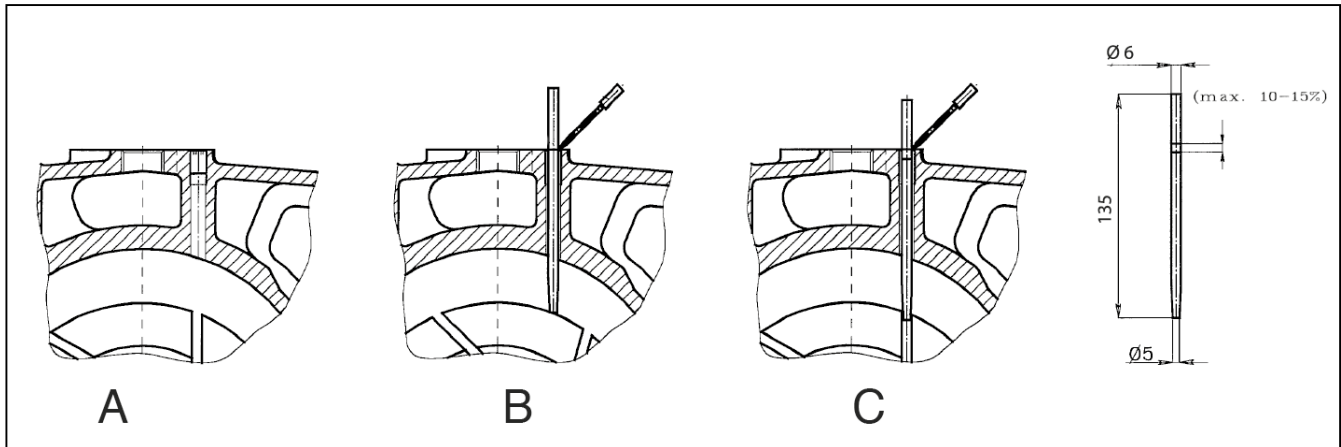

Figure 14
- 7) mark the rod again at the level of the inspection hole (see Figure 14);